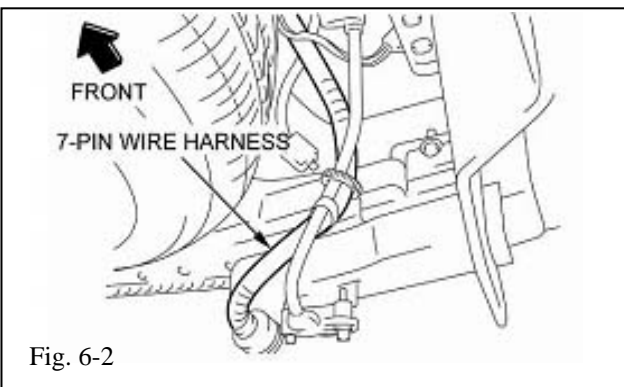

Fig. 6-2
(2) Route the 7-pin wire harness as shown (Fig. 6-2). Secure the factory 4-pin and 7-pin wire harnesses to the trailer hitch using one (1) band clamp. Then clip the band clamp to hitch stay.